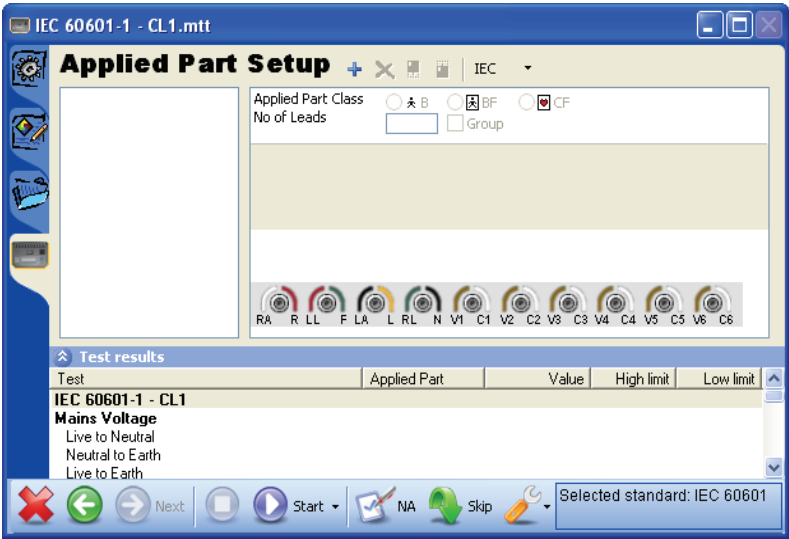

Figure 3-7. Applied Part Setup Window
1. Click the **Applied Part Setup** tab on the left-hand side of the Test Guide to open the Applied Part Setup page as shown in Figure 3-7.
If AAMI applied part nomenclature is selected, the applied part class options will be different than those shown in Figure 3-7.